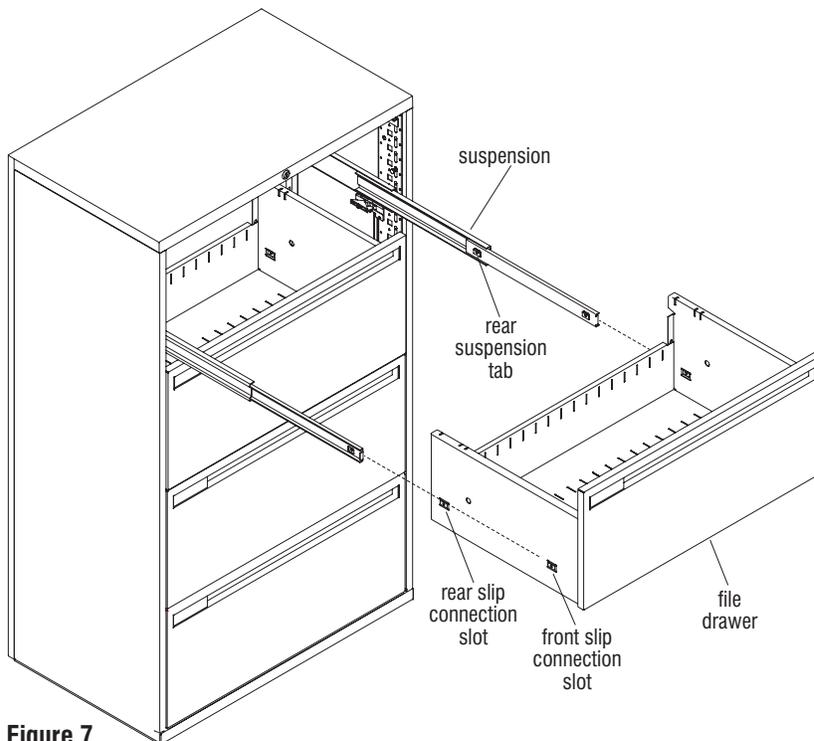

Figure 7
1. Fully extend each suspension out of the cabinet (Figure 7 or Detail H).
2. Slide the rear slip connection of the drawer together by first aligning the rear suspension tab with the corresponding slot in the drawer body. Hold suspension firmly while pushing the drawer down, making sure the slip connection is together securely (Figure 7 or Detail H).
3. Once the rear slip connection is in place correctly on each side, the front connection tabs will align and the drawer can be pushed down into place at the front of the suspensions (Figure 7 or Detail H).